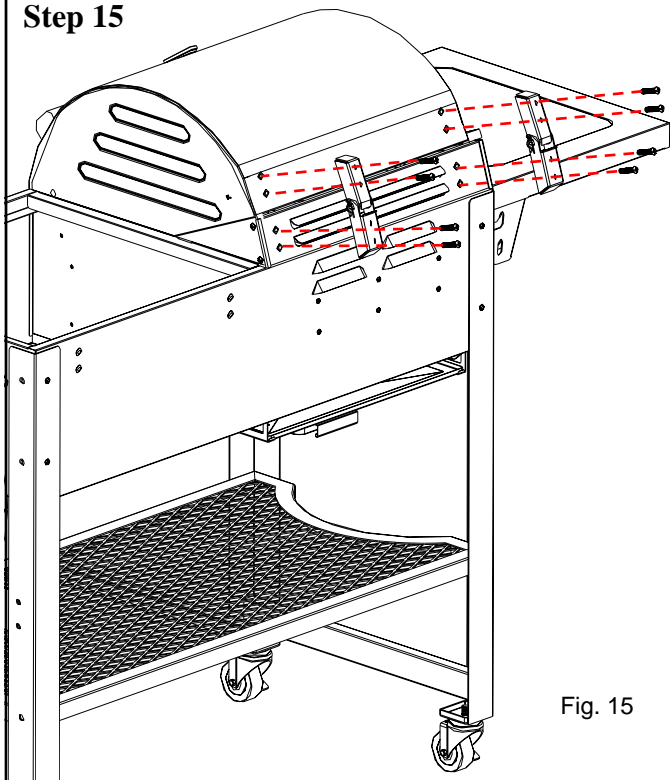

Fig. 15
Refer to Fig. 15, attach Gas Grill Lid and Windscreen to Hinge Assemblies using (8) M6*35 Bolts as shown.